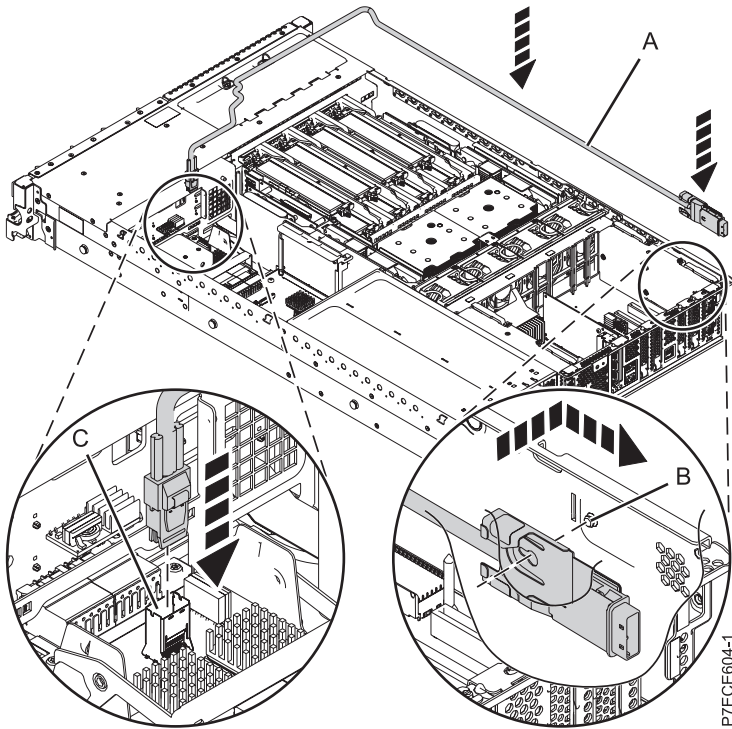

Figure 60. Replacing the SAS cable
- 1) Connect the mini-SAS connector of the SAS cable to the internal SAS connection port (C) on the storage interposer until it snaps in place. See Figure 60 on page 70.
- 2) Route the cable (A) in front of the memory riser cage, and along the channel in the side wall until the SAS port connector is near the opening on the rear of the chassis.
- 3) Align and guide the slot in the bracket of the SAS port connector (B) over the guide pin in the chassis, then slide the SAS port connector into the opening on the rear of the chassis until the tab on the bracket snaps in place.